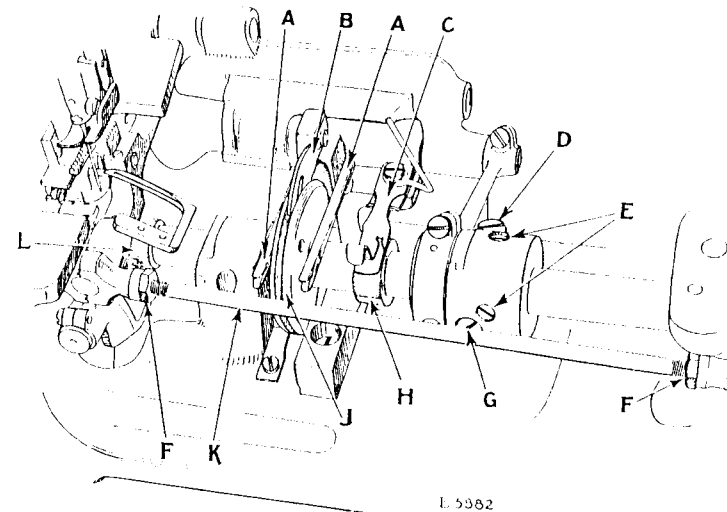
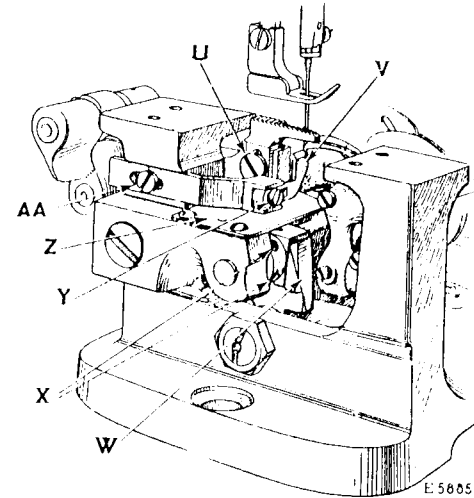
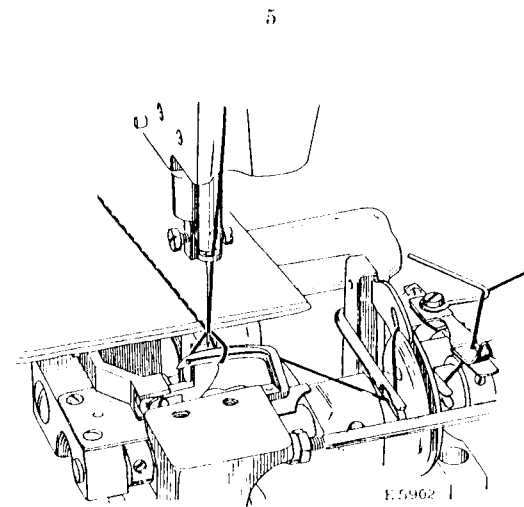

FIG. 1
Fig. 3
FIG. 5
the distance from the centre of the needle or needles to the point of the looper or loopers should be $\frac{7}{32}$ inch. If the distance is more or less than $\frac{7}{32}$ inch, loosen the two lock nuts (F, Fig. 1) at both ends of the looper carrier pitman (K, Fig. 1) and turn the pitman rod, as required, until the point of the looper is exactly $\frac{7}{32}$ inch from the centre of the needle; be sure to keep the bearings in alignment, then securely tighten the two lock nuts (F').
The timing of the side swing of the looper is controlled by the eccentric and slide block operating in the forked connection next to the bearing at the left hand end of the rotary shaft, as shown at W, in Fig. 3. To change the time of the side swing of the looper, remove the cover (Z, Fig. 3), then loosen the two set screws (X, Fig. 3) and turn the eccentric on the shaft until the desired timing of the side swing of the looper is obtained, after which tighten the two set screws (X) and replace the cover (Z).
The looper thread take-up (J, Fig. 1) should be timed when the needle is at its highest point and the looper is just commencing its backward stroke or loop shedding motion, at which time the flat or straight part of the take-up (J) should just touch the thread between the two eyelets in the thread take-up staple (A, Fig. 1). As the needle moves downwardly, the take-up (J) should just take up the slack thread from the looper, keeping the thread straight from the eye of the looper to the last stitch formed. The looper thread take-up (J) can be correctly timed after loosening the screw which holds it in position on the rotary shaft. If the looper thread take-up is timed too early it will strain the looper thread, breaking the thread or causing it to pucker the material. The looper thread take-up should just take the slackness out of the thread when the looper is on its backward stroke.
It is advisable to observe closely how the needle, on its downward stroke, passes the loop which is on the looper. The needle should pass to the left of the loop or in the triangle as shown in Fig. 5.
The purpose of the looper thread take-up stripper (B, Fig. 1) is to cast the thread off the take-up (J, Fig. 1) after the needle has entered the triangle formed by the looper blade, the looper thread and the needle loop, as shown in Fig. 5, and to hold it in position on the take-up until the point of the looper has entered the needle loop on its loop taking stroke. At this point, the stripper should release the thread and allow it to go freely with the looper. To adjust the stripper, loosen the screw at the right of the stripper and move the stripper forward or backward, as required, then tighten the screw.
The function of the looper thread nipper (C, Fig. 1, page 1) is to prevent the take-up (J, Fig. 1) pulling the thread from the supply instead of taking up the slack from the looper.
The nipper cam (H, Fig. 1) should be timed to close the nipper (C) just before the flat portion of the take-up (J) reaches the thread between the take-up eyelets (A, Fig. 1) and before the take-up starts to act. Care should also be taken to see that the thread nipper releases the looper thread before the looper starts its loop taking stroke. The nipper cam (H) can be correctly timed after loosening the set screw which holds it in position on the rotary shaft.
The function of the needle guard (V, Fig. 3, page 3) is to prevent the needle springing into the path of the looper when the looper is on its forward stroke. The needle guard should be set as close as possible to the needle without touching it. To set the needle guard in the correct position, loosen the set screw (AA, Fig. 3) and move the guard toward or away from the needle, as may be required, then securely tighten the set screw (AA).
The needle guard can be adjusted sidewise to clear the feed dog after loosening the screw (Y, Fig. 3).
The length of stitch is regulated by the large screw (D, Fig. 1) which projects beyond the body of the feed eccentric on the rotary shaft at the right of the opening in the cloth plate. To increase the length of stitch, loosen the feed eccentric set screw (G, Fig. 1) and turn the large screw (D) over to the left or outwardly. To shorten the stitch, turn the large screw (D) over to the right or inwardly. When the desired length of stitch is obtained, securely tighten the set screw (G).
The feed should be timed so that it starts its feeding movement just before the needle leaves the goods and finishes before the needle reaches the goods on its downward stroke. To time the feed, loosen the two set screws in the feed eccentric (E, Fig. 1, page 1) on the rotary shaft and turn the eccentric on the shaft until the correct timing is obtained, being careful not to move the eccentric sidewise, then securely tighten the two set screws in the eccentric.
The feed dog should be set so that when it is raised to its highest point by the feed lifting eccentric (L, Fig. 1), the full depth of the teeth will project above the top surface of the throat plate. The feed dog can be set at the desired height after loosening the screw (U, Fig. 3) which holds it in position. When the feed dog is set at the required height, securely tighten the screw (U).
that when the thread is pulled out of the recess in the looper, the retainer (BB) will hold back the thread to permit the needle to properly enter the triangle formed by the looper blade, the looper thread and needle loop as shown in Fig. 5, page 5.